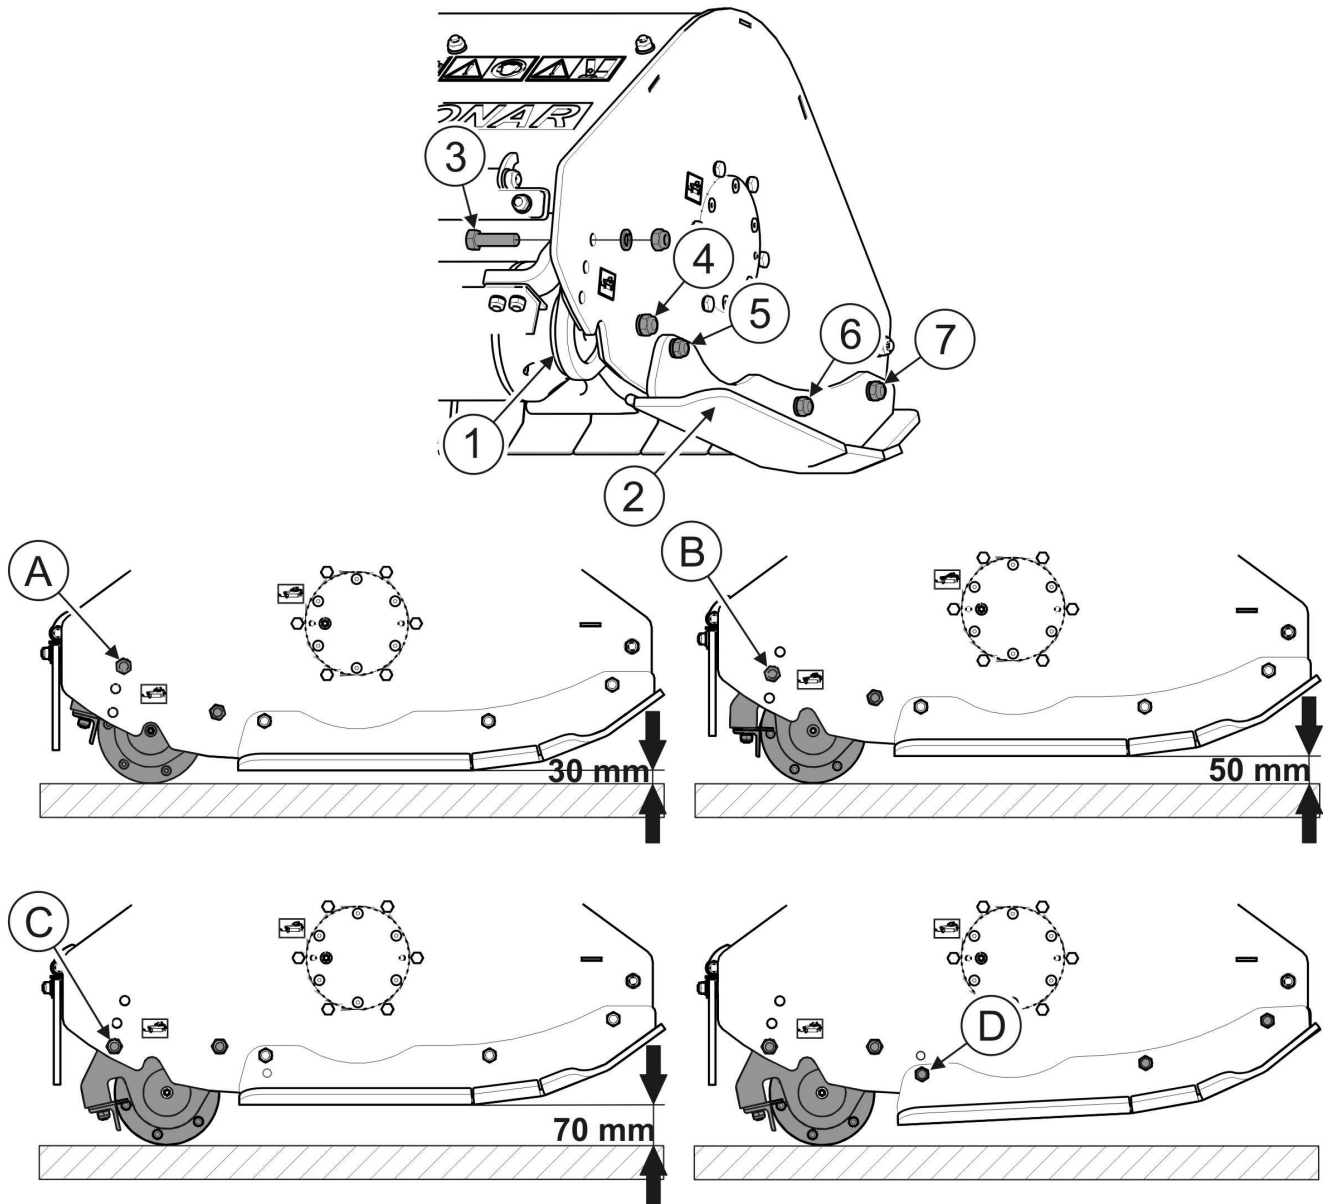

FIG. 4.8 Setting mower cutting height.
- lower the mower so that the cutting unit is supported freely on the ground, on the tracking shaft. Slides should not touch the ground and the complete cutting unit should be set in parallel to the ground (FIGURE 4.8).
(1)- tracking shaft; (2)- slide; (3)- tracking shaft fixing bolt; (4)- nut; (5)- slide fixing bolt; (6)- nut; (7)- nut; (A)- position of the bolt setting cutting height of 30 mm; (B)- position of the bolt setting cutting height of 50 mm; (C)- position of the bolt setting cutting height of 70 mm; (D)- position of the bolt setting slide angle.
Adjust the length of the top link of the three point linkage in such a way as to ensure that the mower slides are set in parallel to the ground. Cutting height can be modified by changing the tracking shaft (1) position with regard to the mower housing. In order to do this (FIGURE 4.8):
- loosen nuts (4) of bolts on both sides of the tracking shaft (1) on which the tracking shaft will be turned;
- undo nuts and remove fixing bolts (3) on both sides of the tracking shaft
- insert fixing bolts (3) into appropriate openings and screw on the nuts;
- tighten nuts (4) of the bolt on which the tracking shaft was turned, on both sides of the tracking shaft.
- loosen nuts (6) and (7) of the bolts securing the slide;
- unscrew nut and take out bolt (5) fixing the slide;
- turn the slide so as to ensure that the slide opening aligns with the lower opening in the side of the mower housing (D) (FIGURE 4.8);
- insert fixing bolt (5) into the aligned openings and screw on the nut
- tighten nuts (6) and (7) of the bolts securing the slide.